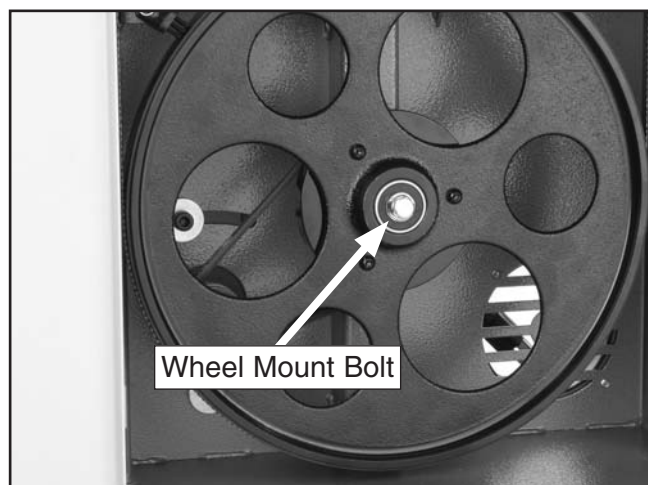

Figure 98. Example of wheel mount bolt.
6. Unthread the wheel mount bolt shown in **Figure 98** and slide the lower wheel off of the bearing shaft.